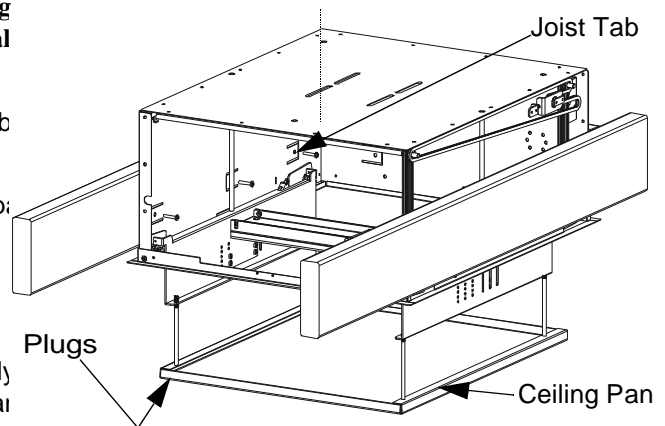

Figure 5. Joist Mounted Installation
- Remove the four plugs, one at each corner of the pan. (See Fig. 5), to reveal four small screws.
- Secure the lift to the joists or wood framework. At least six 1/4 x1-1/4-in. lag screws must be driven through the mounting tabs around the inside of the lift housing. There are 10 tab locations, three in each side and two in each end. Refer to Fig. 5 and Fig. 6. The lift only requires support on two opposing sides.